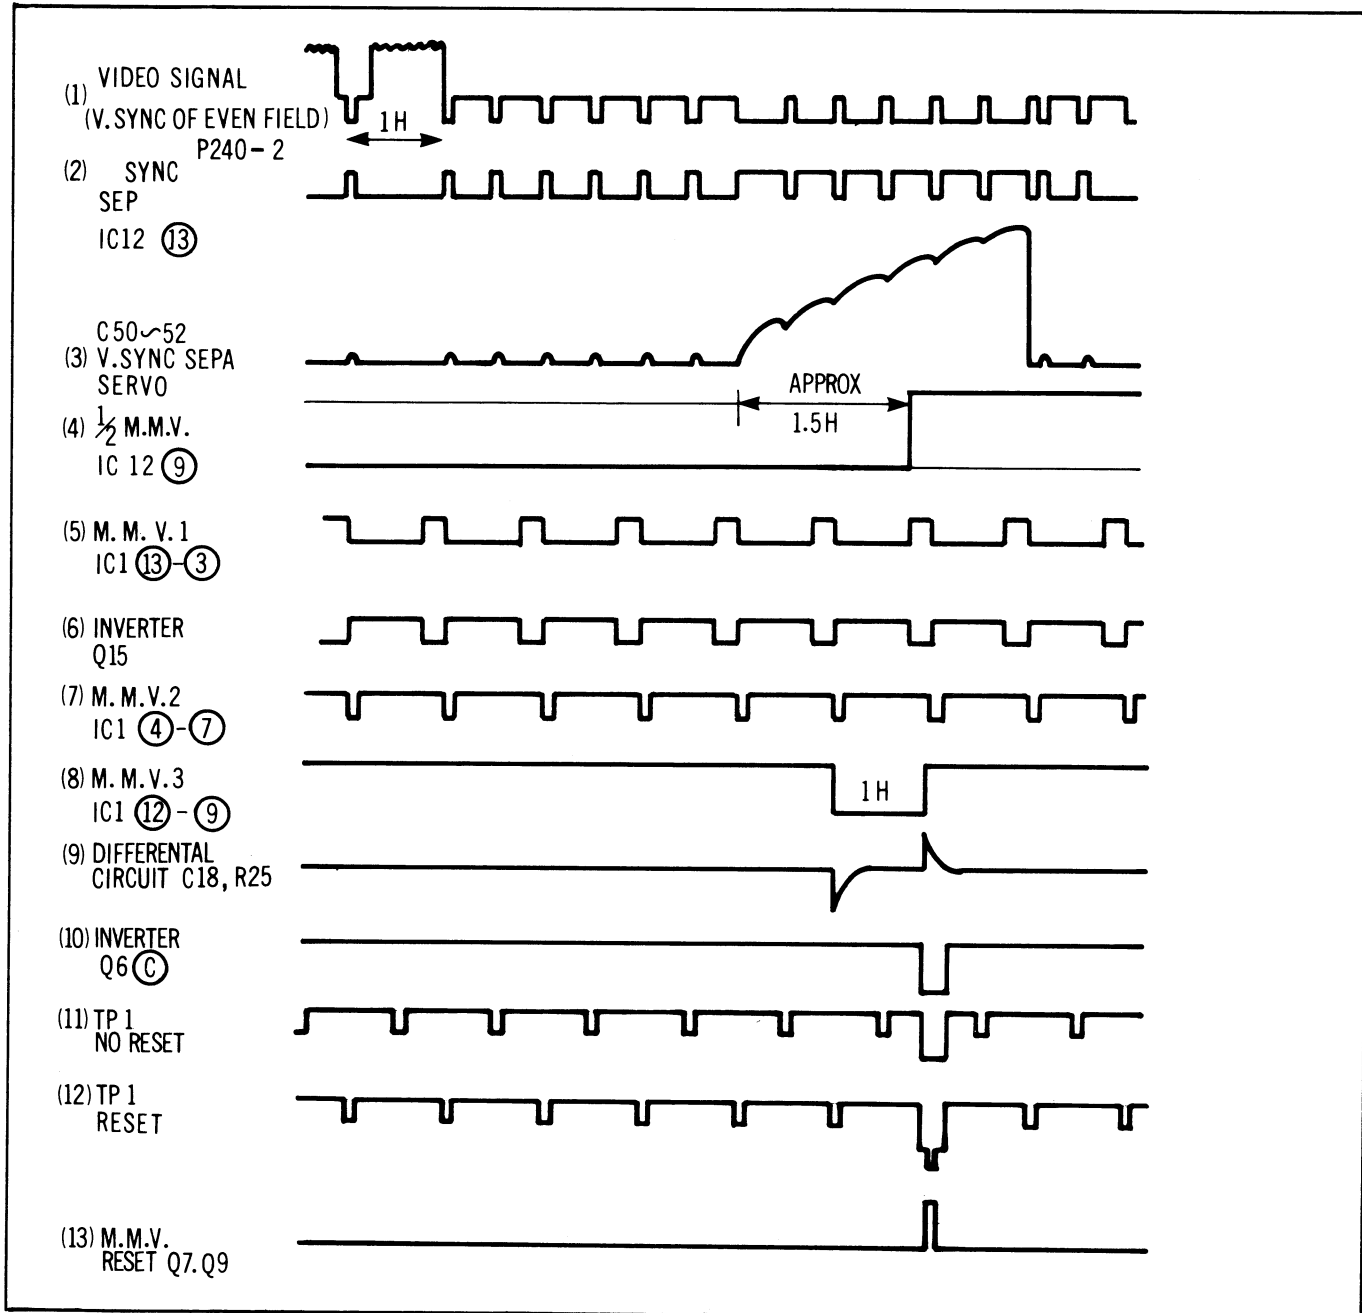

Figure 2-182
The separated sync signal at pin (13) contains composite (horizontal and vertical) sync, shown in Figure 2-182(2).
The composite sync is sent through a low pass filter (V. Sync Separator) consisting of C50, 51 and C52. The low pass filter eliminates the higher frequency horizontal sync and passes only the vertical sync, shown in Figure 2-182-(3). The separated vertical sync signal is passed by Amplifier Q16 and inverter Q15 to IC12 (12). At pin (12) the vertical sync signal triggers a 1/2 count down monostable multivibrator. This results in a 30 Hz sync signal offset from the leading edge of V sync by approximately 1.5 H, shown in Figure 2-182 (4), at pin (9) of IC12.
This signal is fed to the monostable multivibrator (MMV) 3 IC1 (12) and (9) through P239-(1) and P103-(1), and delayed 1H as shown in Figure 2-182 (8). This MMV3 is triggered by the positive going edge of the 1/2 count down signal, Figure 2-182-(4). The delayed signal is differentiated by C18 and R25, shown in Figure 2-182 (9). This is inverted by Q6 to form the pulse shown in Figure 2-182(10). At the same time, the composite sync signal from pin (13) of IC12 is also buffered by Q5, through connectors P239-(2) and P103-(3), and applied to MMV1, IC1 pins (13) and (3). This M.M.V.1 is triggered by the composite sync signal as shown in Figure 2-182 (2). Because the duration is 40μs, the equalizing pulses are eliminated by this MMV, as shown in Figure 2-182 (5), and the output is inverted by Q15, as shown in Figure 2-182 (6). This signal triggers a second MMV, IC1-(4), (7), with a duration of 4.5μs, which makes a horizontal sync output without equalizing (1/2H) pulses.
The continuous H rate pulses, shown in Figure 2-182 (7) and the delayed 1/2 MMV single pulse at Q6 Figure 2-182 (10) are resistively coupled at a coincidence detector, Q7. Since both waveforms are normally positive, either will hold Q7 on. However, if both are negative at the same moment, Q7 turns off, and the positive pulse is double inverted by Q8 and Q9 as shown in Figure 2-182 (13).
If the Servo Locks to the vertical sync signal of an even field, the waveform shown in Figure 2-182 (11) is obtained at TP1, the vertical sync phase is proper, there will be no horizontal disturbance at the edit point, and no reset pulse is made.
However, if the Servo Locks to the vertical sync signal of odd field, coincidence occurs, and a negative going pulse occurs at TP1, shown in Figure 2-182 (12). This is inverted and used to reset the 1/2 count down M.M.V in IC12 on the Servo Circuit. This reset pulse will cause the M.M.V. to shift, thus locking to the vertical sync from the even field.